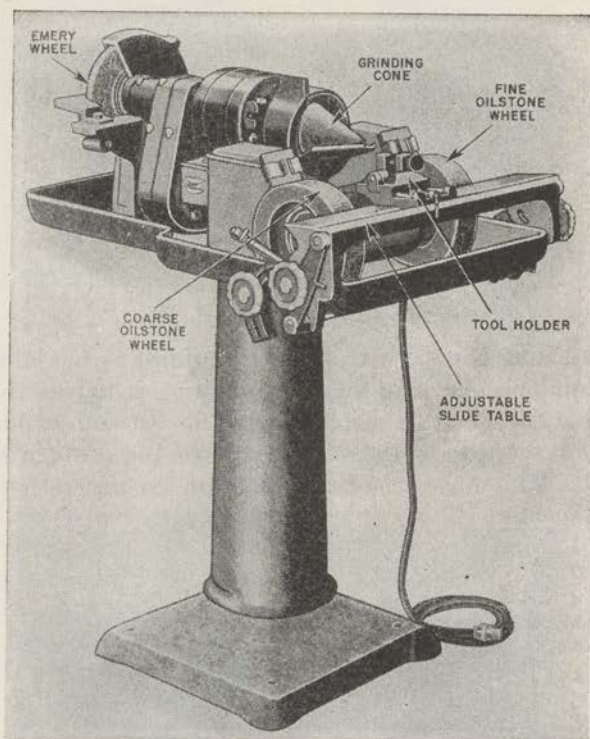

FIGURE 56.—Oilstone tool grinder.
(1) *Grinding*.—(a) First, place the tool on the revolving wheel of a tool grinder to correct and hollow the bevel (see (2) below), and to grind out any nicks that may be in the cutting edge. When using a high speed abrasive wheel, be very careful to hold the tool lightly in contact with the wheel for a short time only, to prevent overheating the tool and spoiling its temper. Dip the tool in water frequently. Old-fashioned grindstones that revolve slowly by hand or foot power and pass through water are safer, but they are used very little today because they cut slowly. A very practical tool grinder for the woodworking shop, which has fine and coarse wheels and a conical grinder for internally ground gouges, is shown in figure 56. On this machine, the wheels are kept wet with oil.